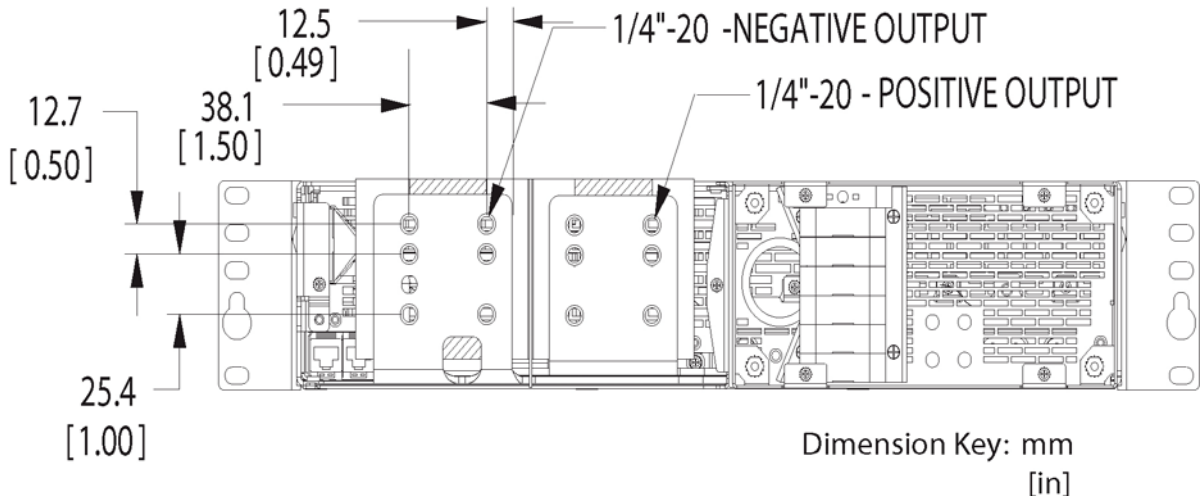

Figure 4 - DC output dimension drawing
Each system is equipped with 2 unprotected bulk output connections as illustrated in Figure 4. Each output has six (6) 1/4"-20 threaded holes that are spaced per the dimensions given in Figure 4.